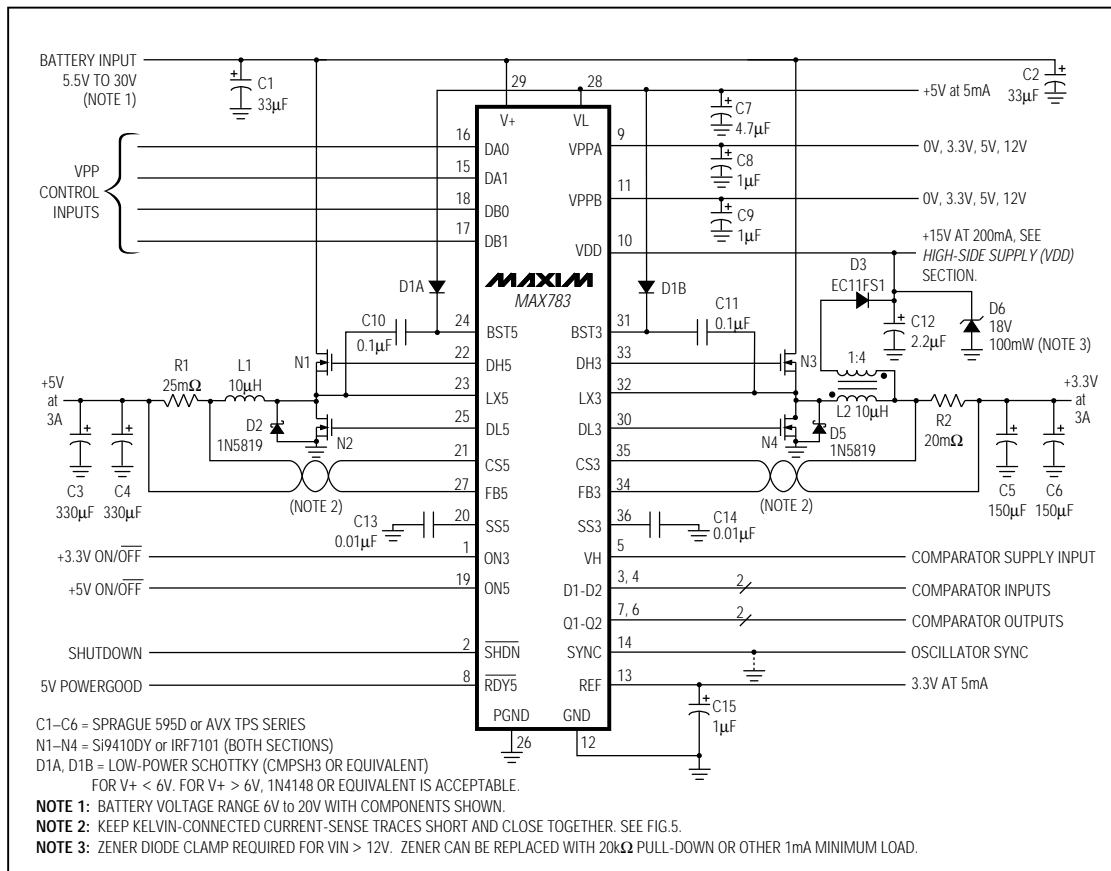
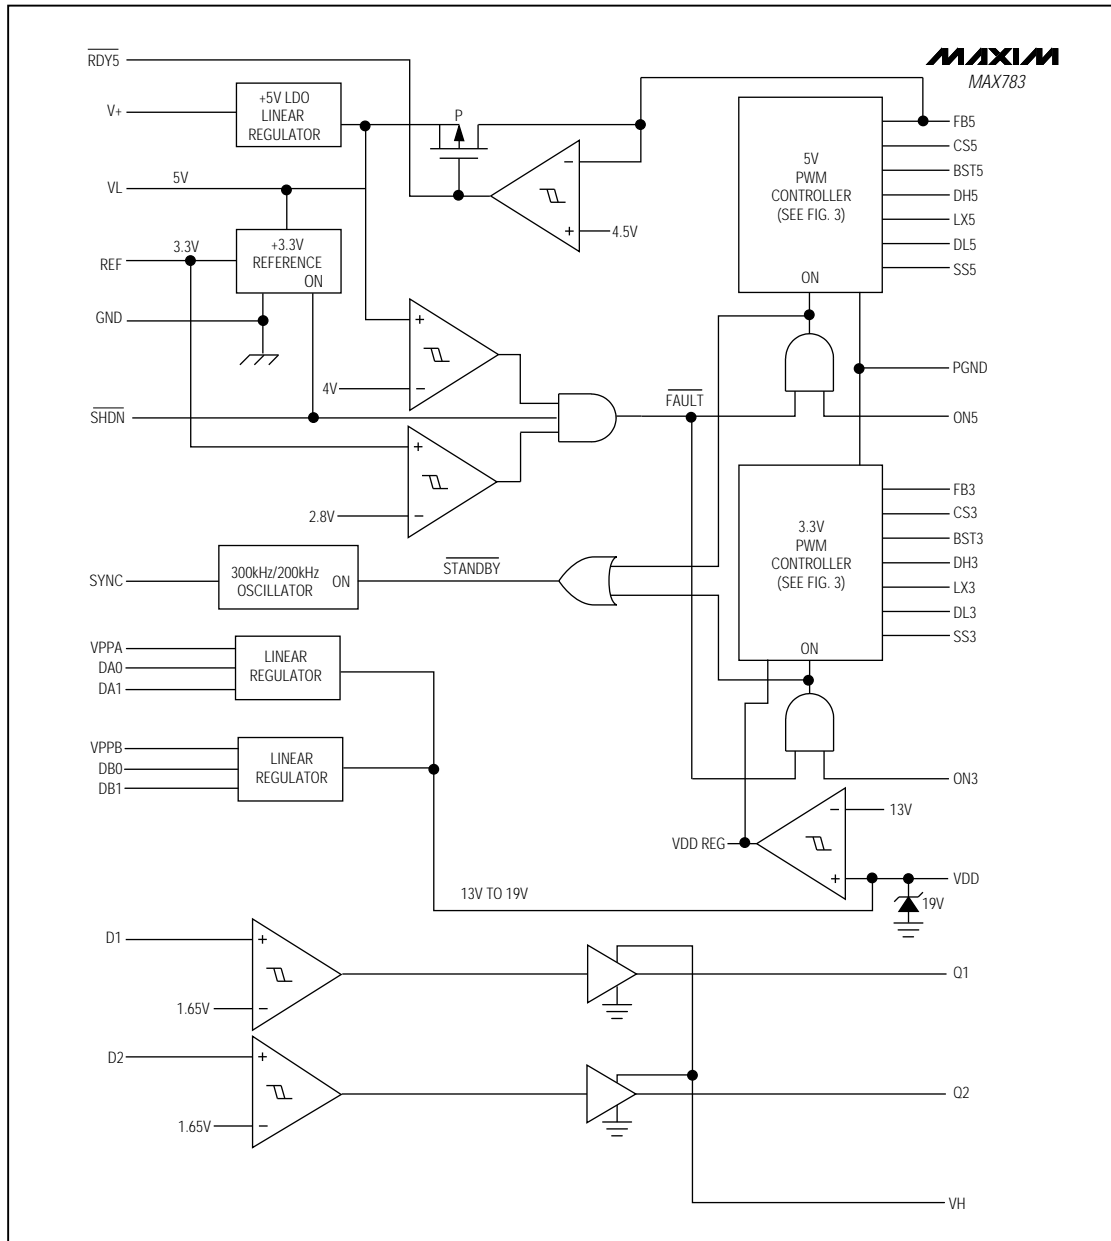

Figure 1. Standard Application Circuit
Figure 2. Block Diagram
(Circuit of Figure 1, Transpower TTI5902 transformer, $T_A = +25^\circ C$, unless otherwise noted.)
(Circuit of Figure 1, Transpower TTI5902 transformer, $T_A = +25^\circ\text{C}$, unless otherwise noted.)
The MAX783 converts a 5.5V to 30V input to six outputs (Figure 1). It produces two high-power, PWM switch-mode supplies, one at +5V and the other at +3.3V. The two supplies operate at either 300kHz or 200kHz, allowing for small external components. Output current capability depends on external components, and can exceed 6A on each supply. Two 12V VPP outputs, an internal 5V, 25mA supply (VL) and a 3.3V, 5mA reference voltage are also generated via linear regulators (Figure 2). Fault-protection circuitry shuts off the PWM and high-side supply when the internal supplies lose regulation.
The +5V supply is generated by a current-mode PWM step-down regulator using two N-channel MOSFETs, a rectifier, plus an LC output filter (Figure 1). The gate-drive signal to the high-side MOSFET, which must exceed the battery voltage, is provided by a boost cir-
cuit that uses a 100nF capacitor connected to BST5. The +5V supply's dropout voltage, as configured in Figure 1, is typically 400mV at 2A. As V_+ approaches 5V, the +5V output falls with V_+ until the VL regulator output hits its undervoltage lockout threshold at 4V. At this point, the +5V supply turns off.
Figure 1's predesigned application circuit contains the correct component values for 3A output currents and a 6V to 20V input range. Use the design procedure that follows to optimize this basic schematic for different voltage or current requirements.